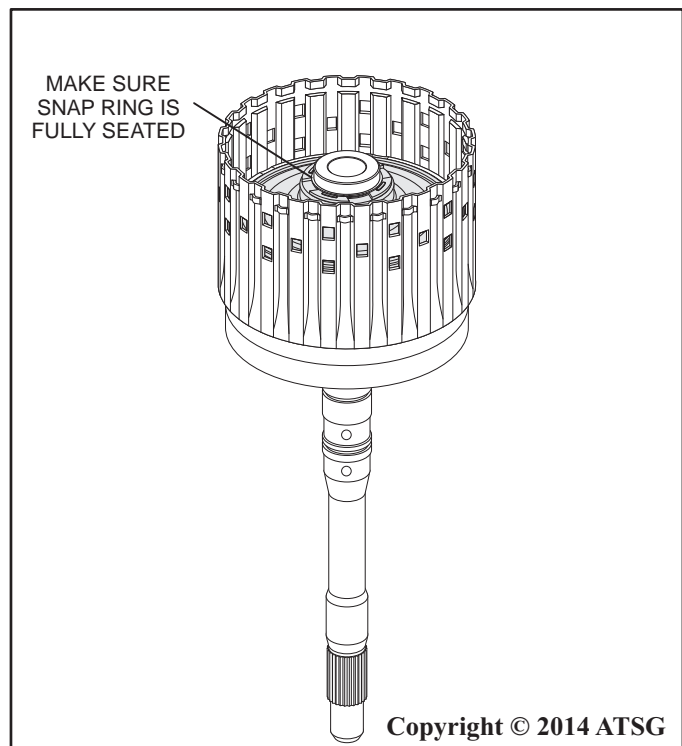

Figure 77
19. Make certain snap ring is fully seated as shown in Figure 77.